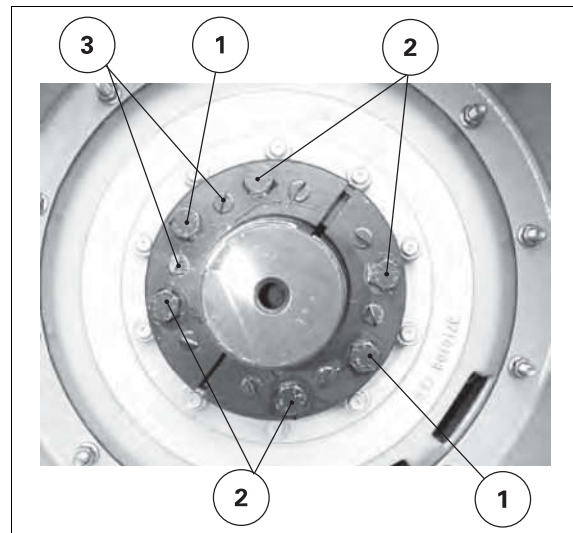

Fig. 9.
- Replace the secondary filter (3) *fig. 9* after it has been cleaned five times, once a year, or every 1200 hours.